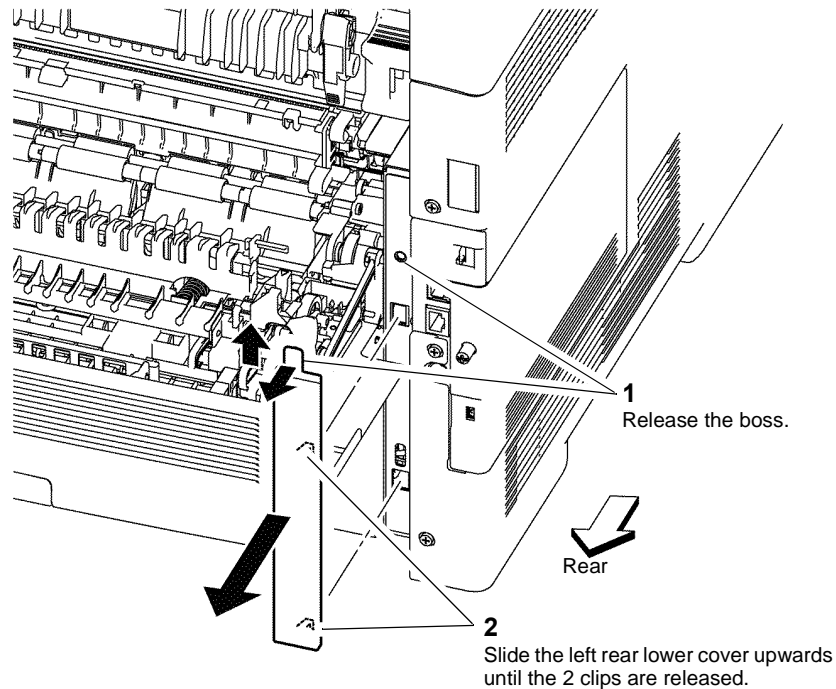

Figure 1 Left Rear lower cover C405
2. Remove the left rear lower cover C405, Figure 1.